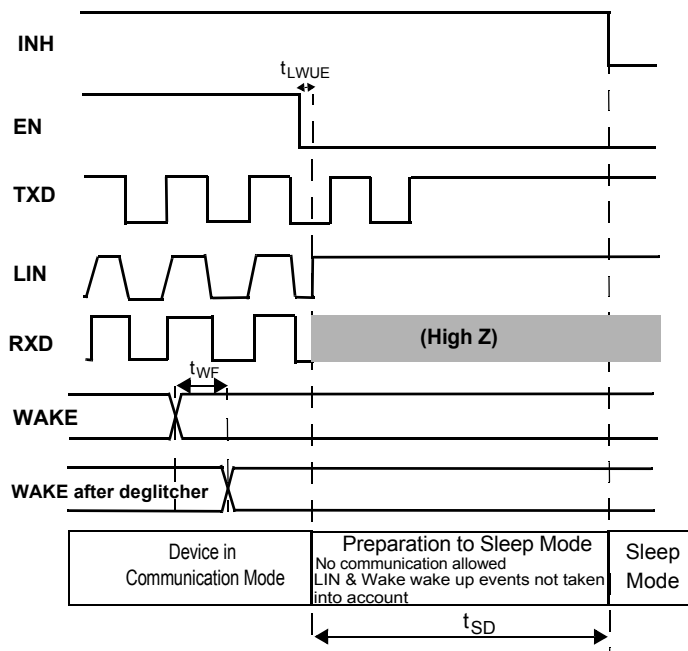

Figure 22. Sleep Mode Sequence for LIN1 or LIN2
- See Figures 22 and 23
EN1 (EN2) input pin controls the operation mode of the interface. If EN1 (EN2) = 1, the interface is in Normal mode, TXD1 (TXD2) to LIN1 (LIN2) after $t_{\text{FIRS_DOM}}$ delay and LIN1 (LIN2) to RXD1 (RXD2) paths are both active. EN1 (EN2) pin thresholds are 3.3 V and 5.0 V compatible. RXD1 (RXD2) V_{OH} level follows EN1 (EN2) pin high level. One LIN Module enters the Sleep Mode by setting EN1 (EN2) LOW for a delay higher than t_{SD} (70 μs typ. value) and if the WAKE1 (WAKE2) pin state doesn't change during this delay. (see Figure 22). Both LIN Modules enter Sleep Mode if EN1 & EN2 LOW.